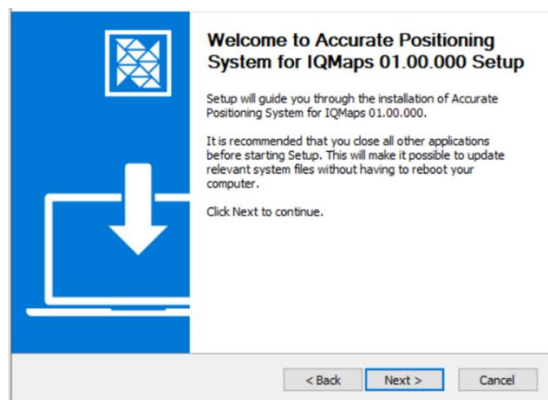

Fig. 18 APS install step 1
2. Click on **Next** button in the window shown in Fig. 18,